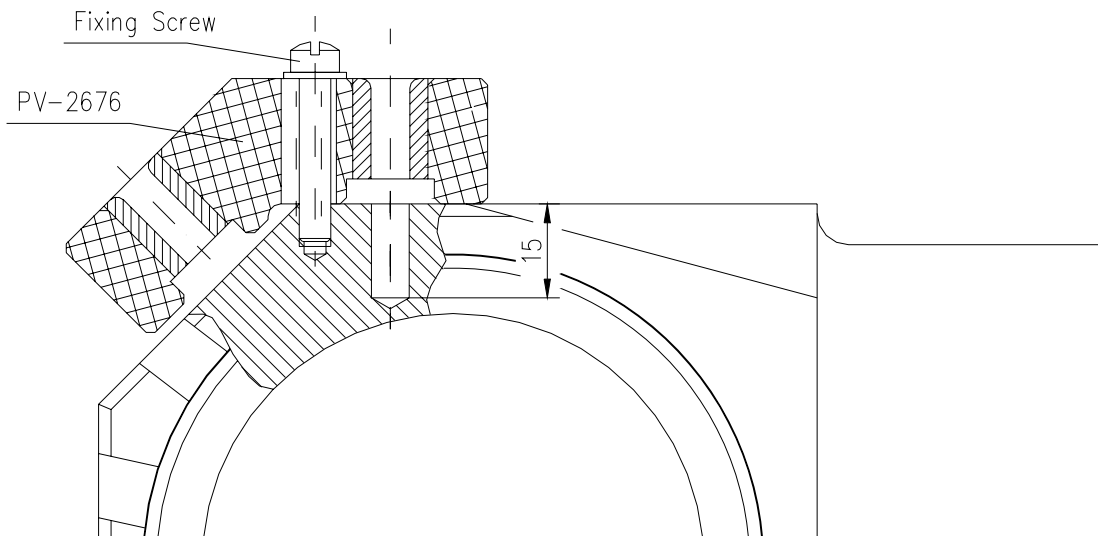

Fig.3
2. Remove the Dowel Pin and drill the rear fixing hole up to $\varnothing 6,3\text{mm}$ (0.25 inch) and 15mm(0.6 inch) deep (Fig. 3).